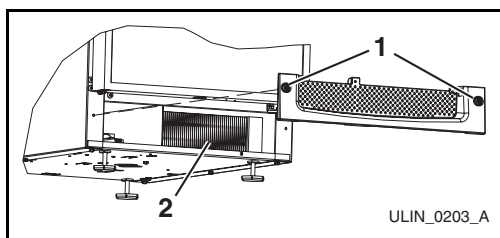

Figure 9
2. Loosen two screws (**Figure 9, 1**) completely.
4. Clean the condenser coil (**Figure 9, 2**) using a soft brush with a "combing" action or vacuum cleaner. Do not touch the condenser coil.